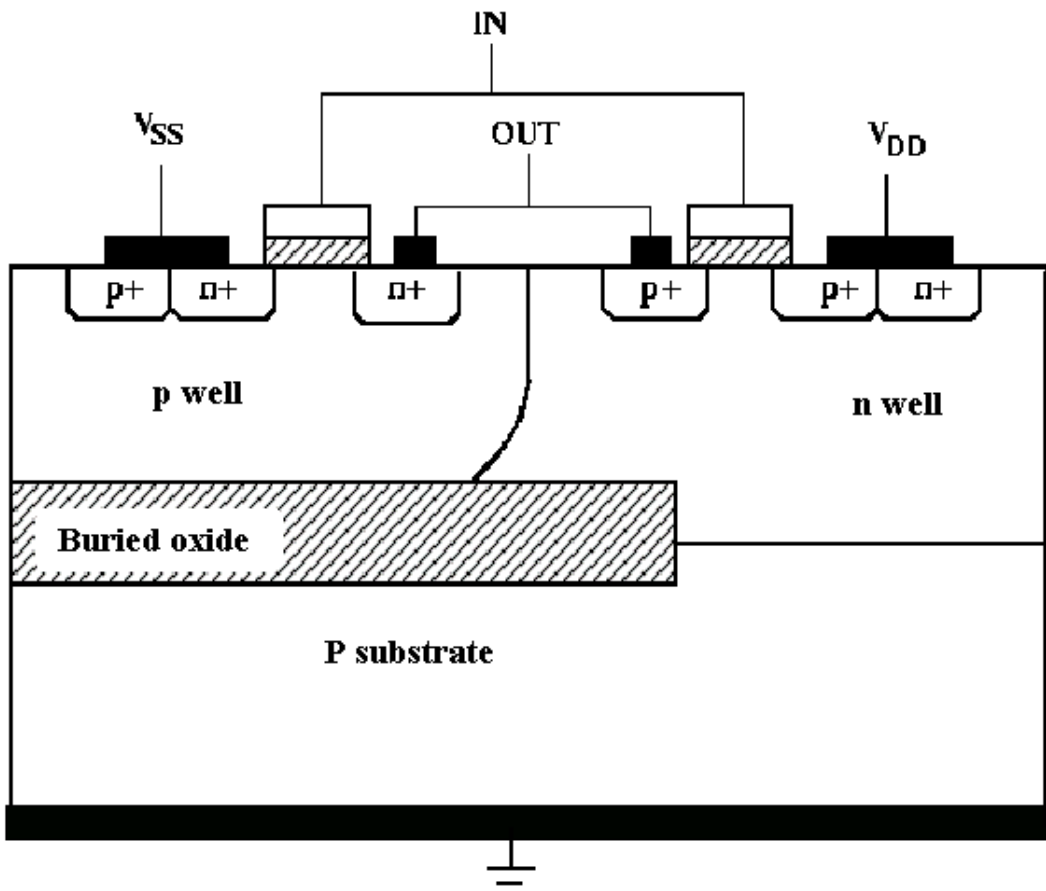

Fig. 2
One extra copy of Fig. 2
- (c) The cross-section of a CMOS inverter cell made in a specialised Partial Silicon-On-Insulator technology is shown in Fig. 2.
- (ii) Using the answer sheet copy of Fig. 2, draw the equivalent circuit responsible for the latch-up, showing specifically the transistor terminals, the parasitic resistors and the connections between them. Which of the parasitic transistors is more likely to trigger the latch-up, and why? Assume that the resistivity of the n-well is greater than that of the p-well. [30%]
Additional copy of Fig. 2